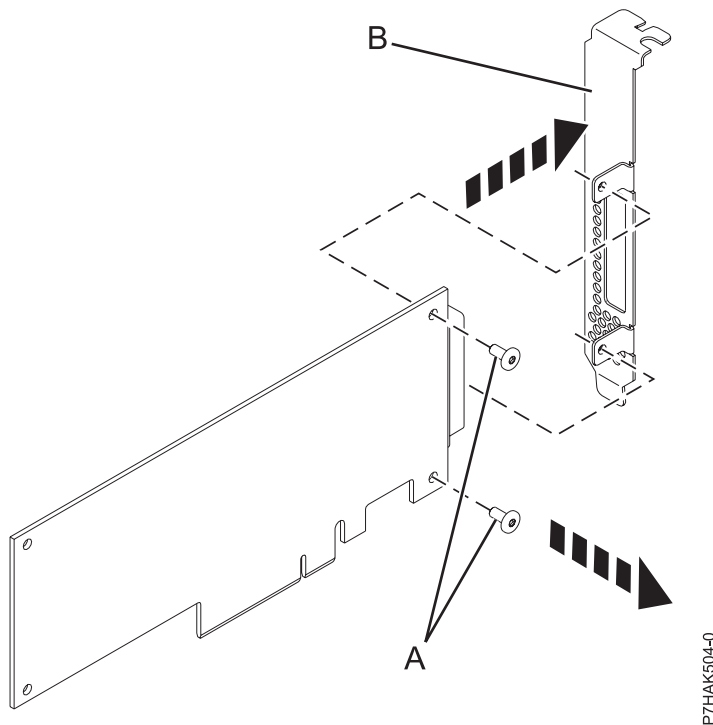

Figure 12. Removing the high-profile tailstock from a new PCI adapter
7. Using a Phillips screwdriver, unscrew the two retaining screws (A) that attach the tailstock (B) to the new PCI adapter, as shown in Figure 12.